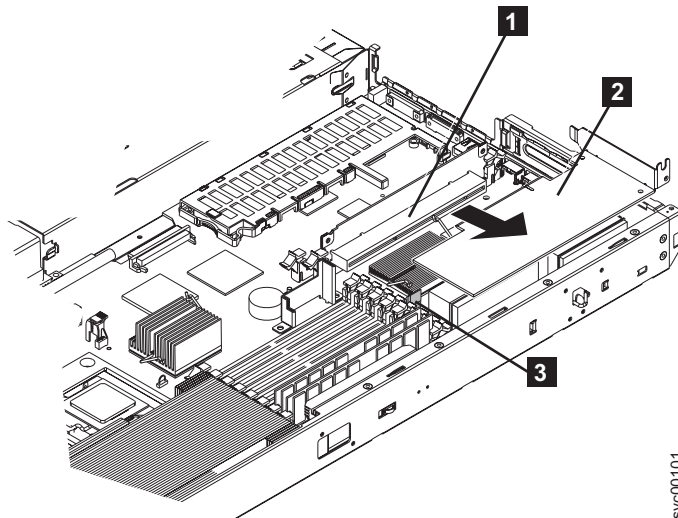

Figure 141. SAN Volume Controller 2145-8F2 riser card and low profile adapter
- b. Hold the blue adapter support away from the card and pull it away from the edge connector on the riser card assembly. See Figure 141.